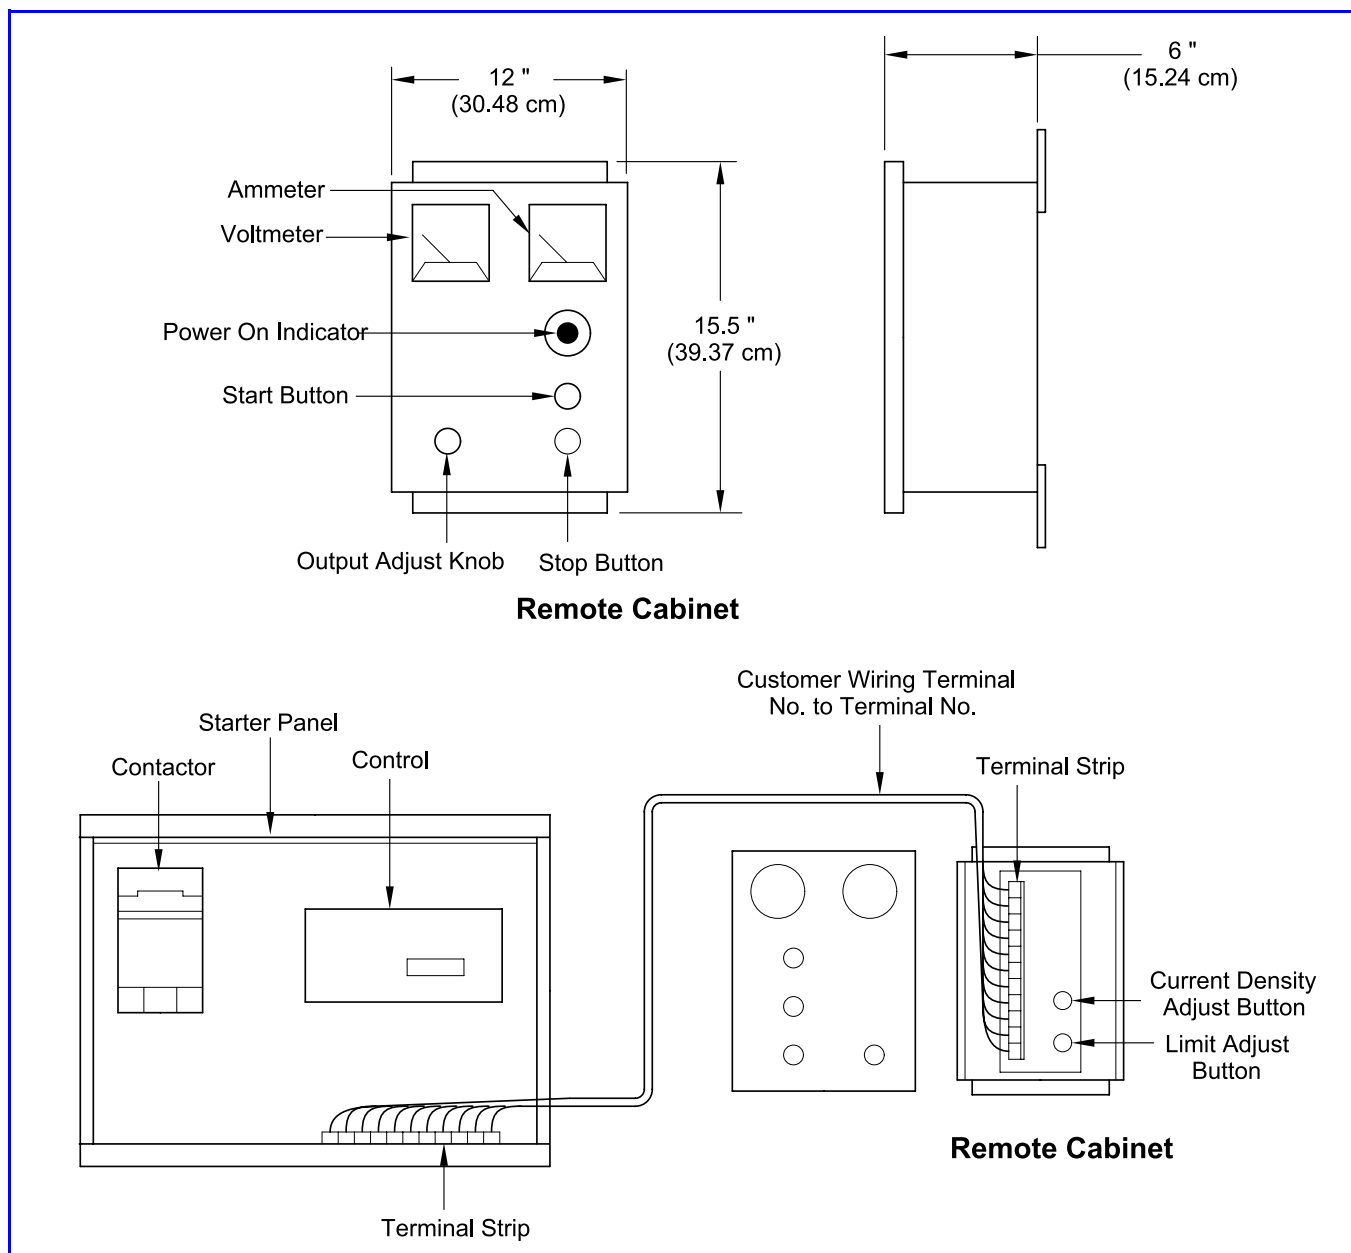

Figure 2 Remote Control Cabinet Interconnection Diagram
2. Locate the control wires, No. 7 and No. 8 on the terminal strip. See **Figure 2**.